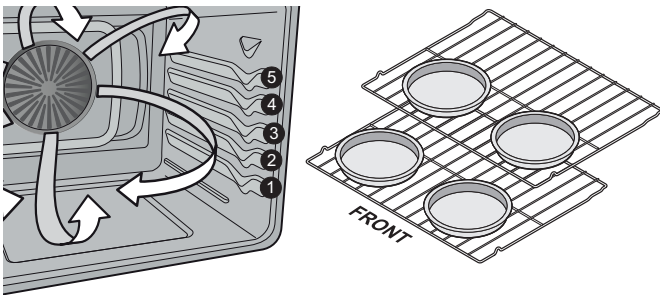

Figure 12: Rack positions and pan placement
- When baking cakes using two oven racks place bakeware in positions 1 (flat) and 3 (glide) and place bakeware as shown in Figure 12.